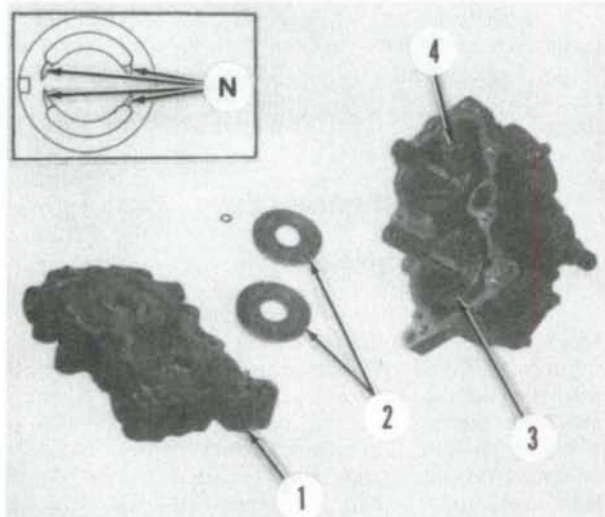

Fig. 190—View of hydrostatic transmission control linkage.
To remove range transmission assembly, first separate engine from clutch housing as outlined in paragraph 101 and remove clutch housing and hydrostatic unit as outlined in paragraph 115. Disconnect foot throttle rod and brake control rods. Remove brake pedals and pedal cross shaft. Remove both foot step plates. Disconnect battery ground cable, then disconnect wiring to rear of tractor. Disconnect hydraulic suction lines and return to sump lines from transmission housing. Remove hydrostatic linkage cover. Disconnect spring (3—Fig. 190) from speed control brake rod (5) and remove bolts (2) attaching linkage bracket (6) to support bracket. Remove transmission top cover (1). Remove hydraulic lift cover as outlined in paragraph 180. Remove high-low shift lever (1—Fig. 191) and cover (2) as an assembly. Drive roll pin from shift boss (12) and remove boss from shift rail (11). Remove detent plug (4), spring (5) and ball (6).